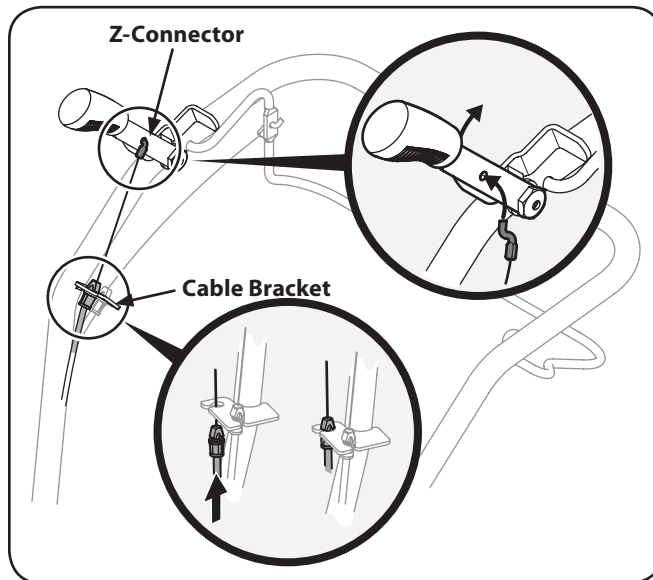

Figure 3-8
- Pull the reverse clutch cable (if so equipped) with the red fitting up through the top hole of the cable bracket and push the cable connector up through the hole until the groove in the connector snaps into place. See Figure 3-8.
- Place the Z-connector into the hole in the reverse clutch handle assembly from the inside of the handle to the outside. See Figure 3-8.